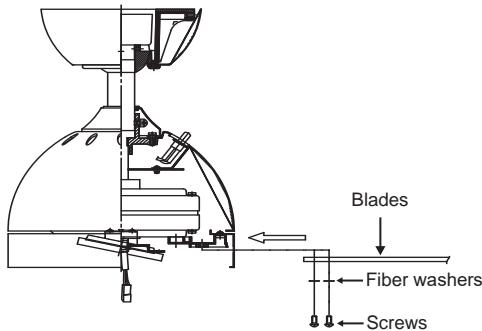

Fig. 16
Step 1. Insert the blade through the blade slot in the motor housing. Align the holes in blade and blade bracket, making sure the holes are also aligned and secure with the screws, fiber washers and blade support plates provided. Repeat process with other blades. (**Fig. 16**)